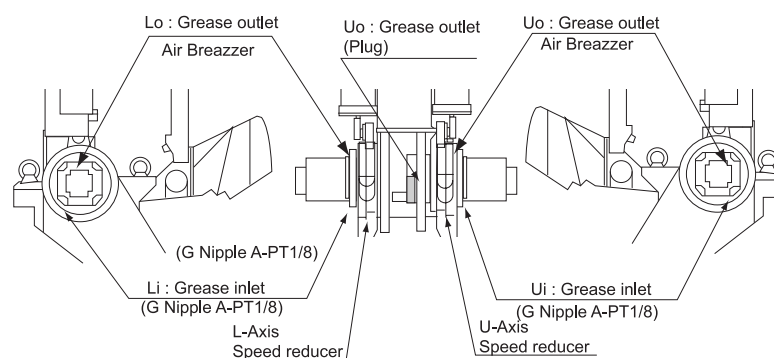

Fig. 23 L-Axis and U-Axis Speed Reducer Diagram
■ Grease Replenishment (Refer to " Fig. 23 L-Axis and U-Axis Speed Reducer Diagram ".)
■ Grease Replacement (Refer to " Fig. 23 L-Axis and U-Axis Speed Reducer Diagram ".)